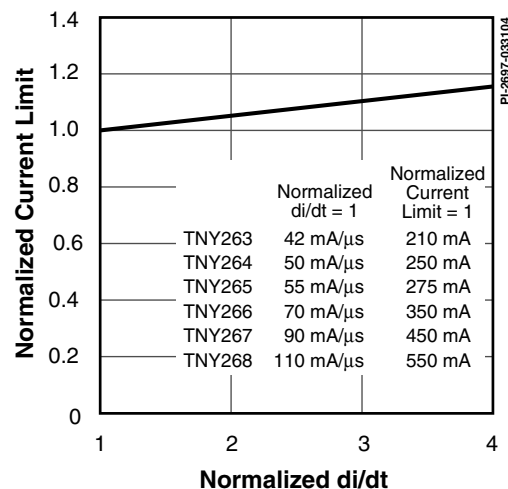

Figure 25. Current Limit vs. di/dt .
- For current limit at other di/dt values, refer to Figure 25.